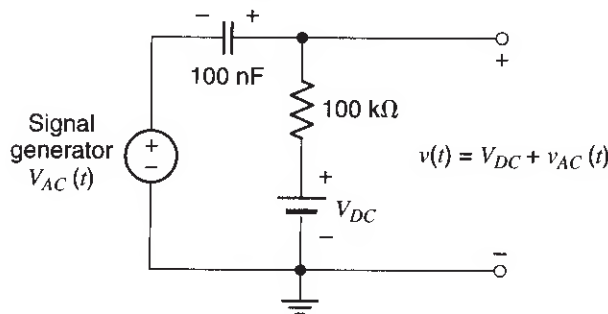
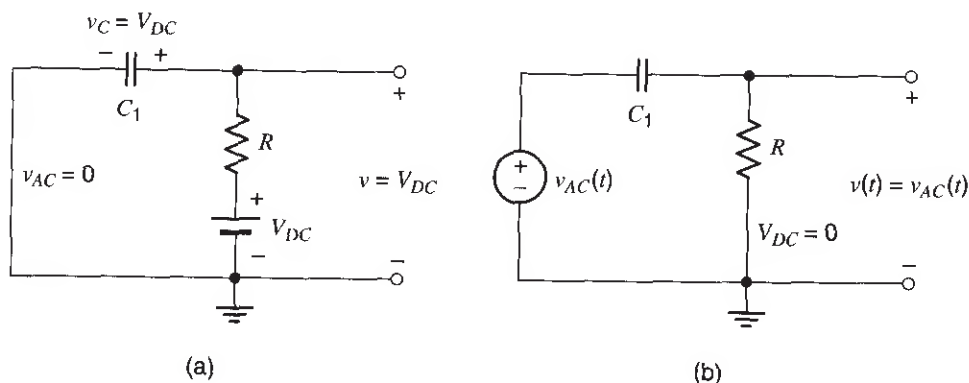

Fig. 3
Fig. 4
12. Consider the circuit of Fig. 3. It contains a DC source V_{DC} and an AC source $v_{AC}(t)$. The output voltage of the circuit is affected by both of these voltages. If the frequency of the signal is much higher than $1/(2\pi RC)$, the output of the circuit will almost be $v(t) = V_{DC} + v_{AC}(t)$, as indicated in the figure. To see this, consider the effect of each voltage source in the circuit by itself, as explained below.
Assume, first, that $v_{AC}(t) = 0$; this is equivalent to assuming that the signal generator is replaced by a short circuit, as shown in Fig. 4(a). Then the capacitor charges up to the DC voltage value, that is, $v_C = V_{DC}$. Using Kirchhoff's voltage law, we conclude that, in the steady state, $v = V_{DC}$, as indicated in the figure.
Assume now that the DC voltage in Fig. 3 is zero instead; this is equivalent to assuming that the DC source is replaced by a short, as shown in Fig. 4(b). The capacitor and resistor now form a high-pass filter with cutoff frequency $1/(2\pi RC)$ (see Experiment 7). If the frequency of the signal is much higher than this, the signal will pass to the output; in other words, $v(t) = v_{AC}(t)$, as indicated in the figure.
Since the circuit is *linear*, superposition will apply: When *both* voltage sources in Fig. 3 are active, the output voltage will be the sum of the individual results in Figs. 4(a) and (b), that is, $v(t) = V_{DC} + v_{AC}(t)$, as indicated in Fig. 3. Thus, we have a circuit in which the AC voltage is coupled to the output through the capacitor (which is, for this reason, called a *coupling capacitor*) and is added to the DC voltage. At the same time, the capacitor blocks the DC voltage from reaching the AC source.
Hook up the circuit of Fig. 3. (CAUTION: It is unlikely that the 100 nF capacitor will have polarity indicated on it, but if it does, make sure to observe it, as shown in Fig. 3.) Use a DC voltage of 2 or 3 volts and a signal voltage with an amplitude of about 0.25 V and a frequency of 1 kHz. [Is this frequency much higher than
- Remove PS1 from the circuit of Fig. 1, and instead use the circuit of Fig. 3 to produce the voltage v_{GS} , as shown in Fig. 5 (for now, set the signal amplitude to 0). The resistor shown connected across the output is meant to indicate any load the amplifier is supposed to drive; for our purposes, this load will be just a scope probe. The probe has a large input resistance (typically 1 M Ω) and can be connected there without disturbing the operation of the amplifier. Capacitor C_2 is a coupling capacitor, which allows the AC variation of v_{DS} to appear across the load but blocks the DC value of that voltage. Essentially, C_2 forms a high-pass filter together with the load resistance. This filter passes the (high-frequency) AC variation of v_{DS} to the load but rejects the DC (i.e., zero-frequency) part of v_{DS} . (In the unlikely event that the capacitors indicate polarity on them, make sure to observe it, as shown in Fig. 5.)